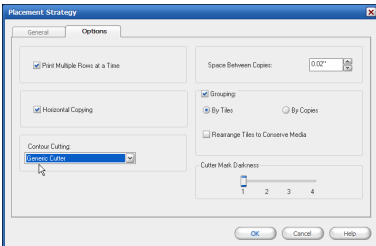

Figure 7—Generic Cutter
4. On the Options tab select the desired cutter from the Contour Cutting drop-down menu (see Figure 7). If this menu does not list your specific cutter, select **Generic Cutter**.